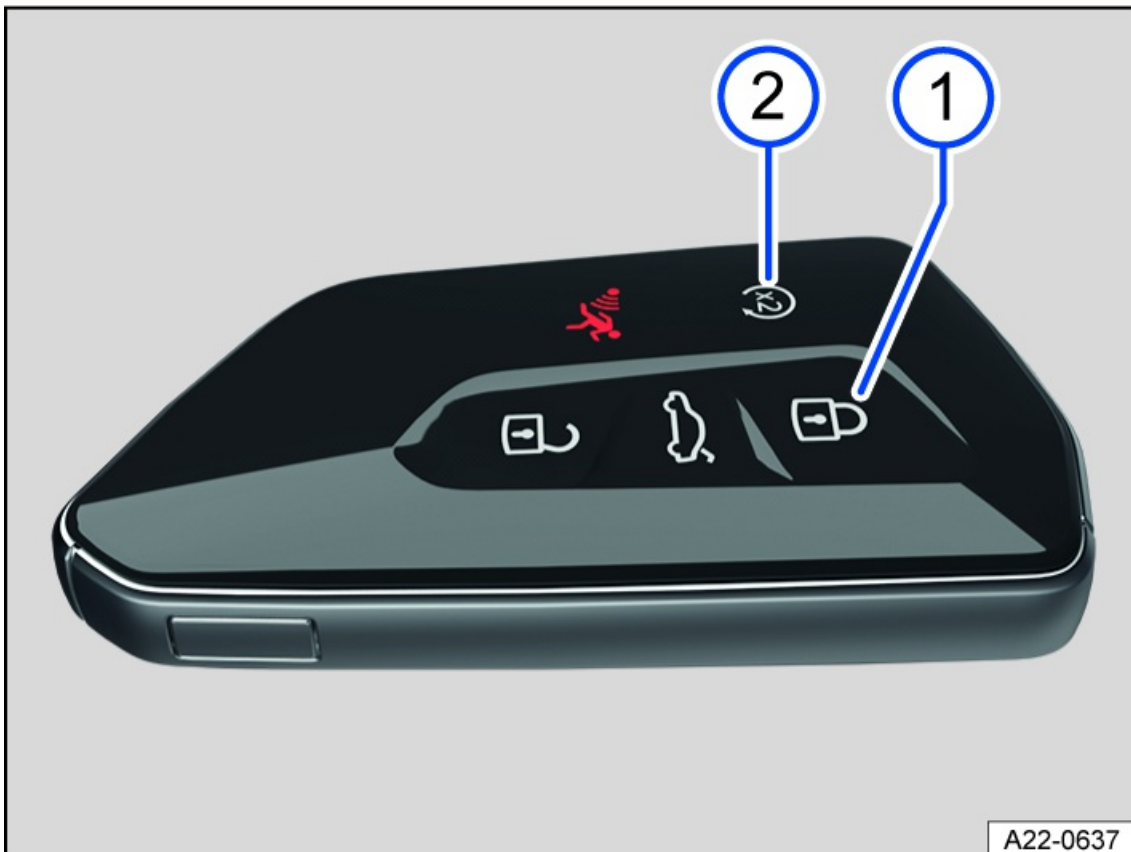

Fig. 83 On the remote control vehicle key: Button for remote start relay function.
1. Press the button  once *fig. 83*.
2. Press the  button twice *fig. 83*.
1. Press the  button on the remote control vehicle key to switch off the engine *fig. 83*.